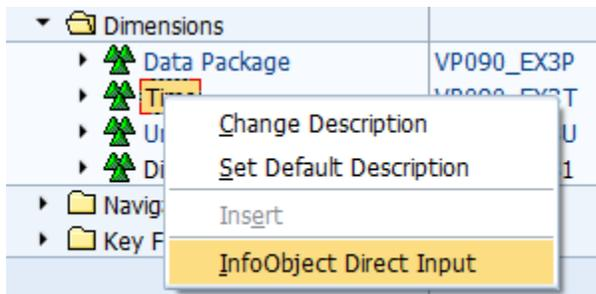

Figure 27 – Infoobject direct input
2.6 **Enter infoobjects** – We can now enter the infoobjects for the virtual infoprovider. We need to enter the infoobjects for the table fields in the virtual table we created in Hana. One way to enter infoobjects is to use the direct input as shown in figure 27. Once entered, the infoobjects will show up in the definition of the virtual infoprovider. In our example, we can enter the infoobjects for the table fields as shown in figure 28. Please note that 0AMOUNT is a key figure and the rest are characteristics.